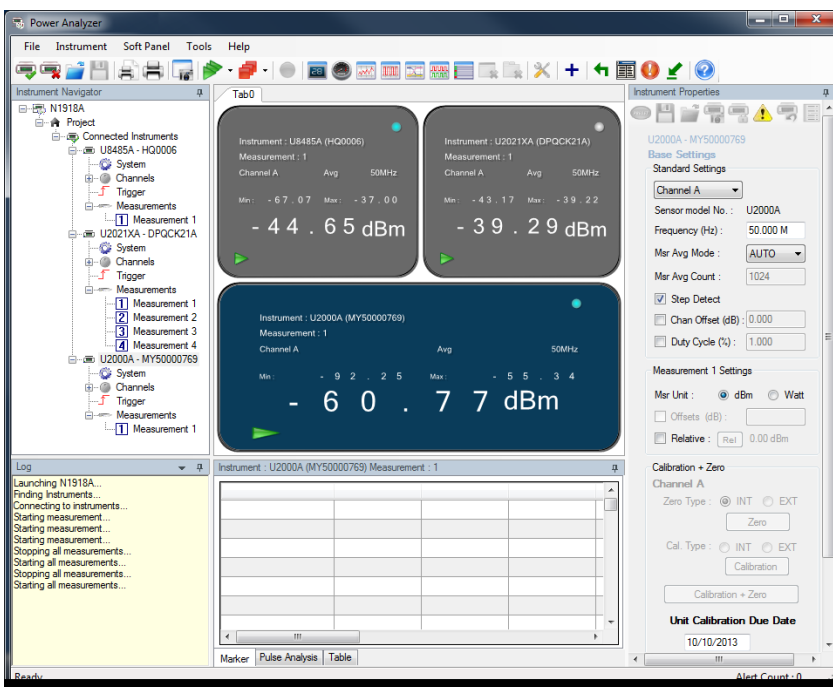

Figure 11. Multi-channel power measurement (in this example with 3 USB power sensors) via Keysight N1918A Power Analysis Manager, Power Analyzer software
3. Synchronize measurement acquisition (see Figure 11).	From toolbar, click Tool and select Options & Settings. From Options & Settings menu, in General tab, click Enable synchronous measurement acquisition and click Apply to proceed.